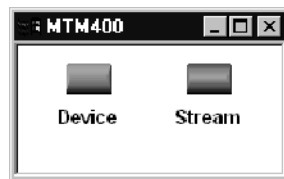

Figure 2: Hotspot view
5. After you select OK, the Hotspot view is displayed (see Figure 2).